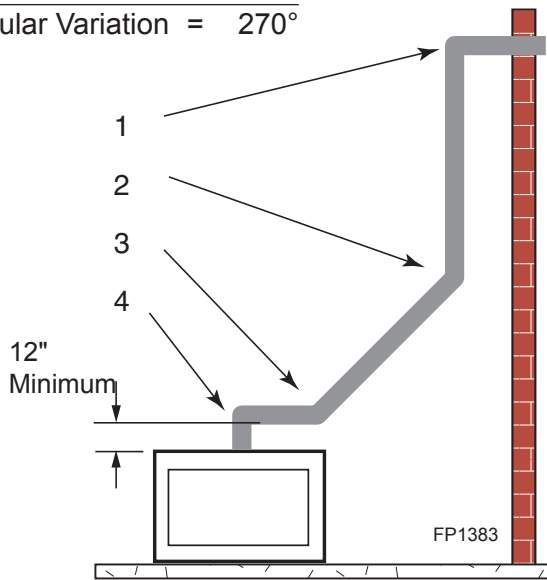

Figure 5.8 - Maximum Elbow Usage
- The maximum number of elbow degrees in a system is 270°. Figure 5.8.